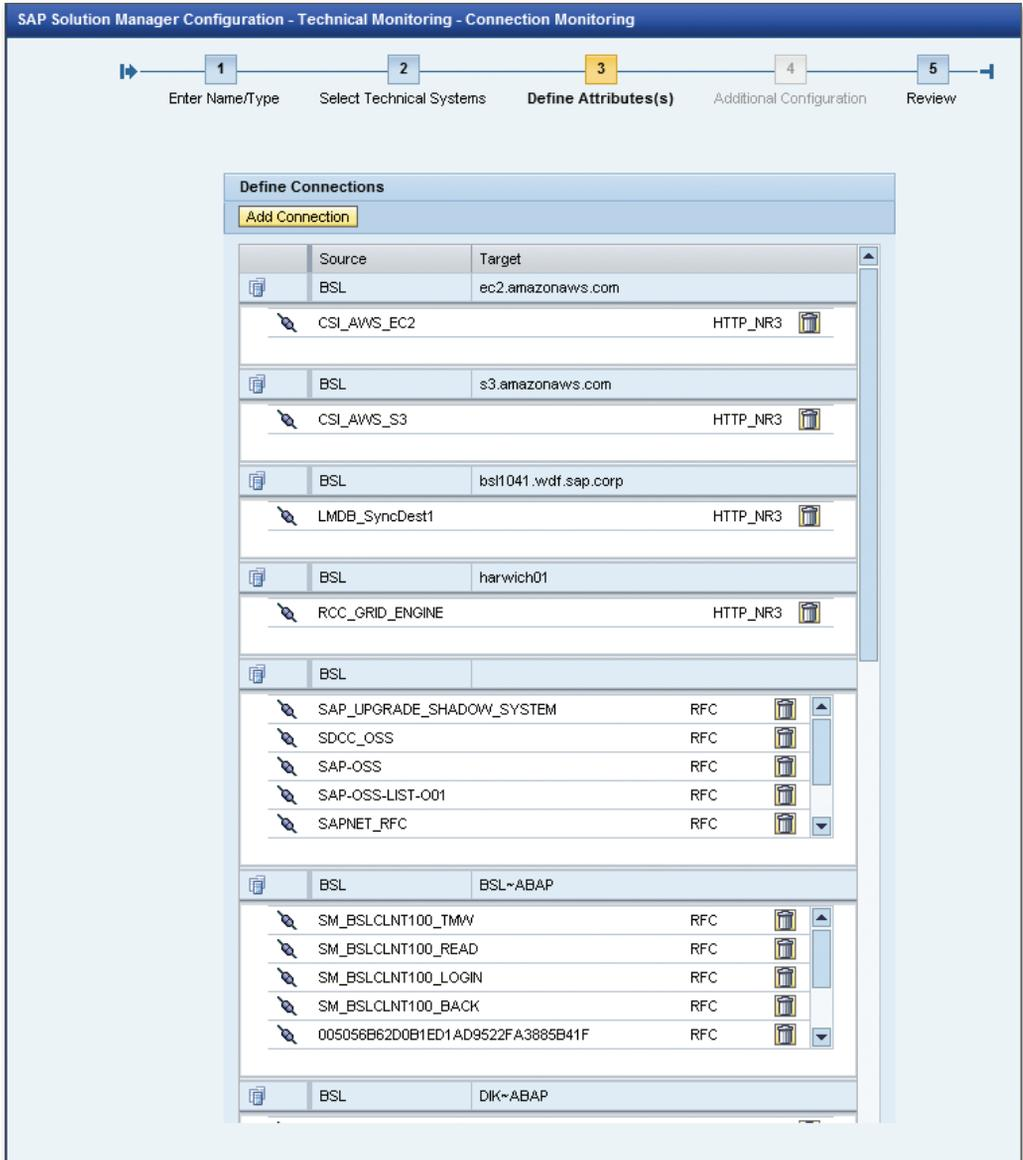

Figure 6.55 Selecting Systems in the "Define Attribute(s)" Step
- DEFINE ATTRIBUTE(S)** is the next substep in the scenario definition. The list displayed here contains all the connections that have been found and can be monitored (see Figure 6.55).